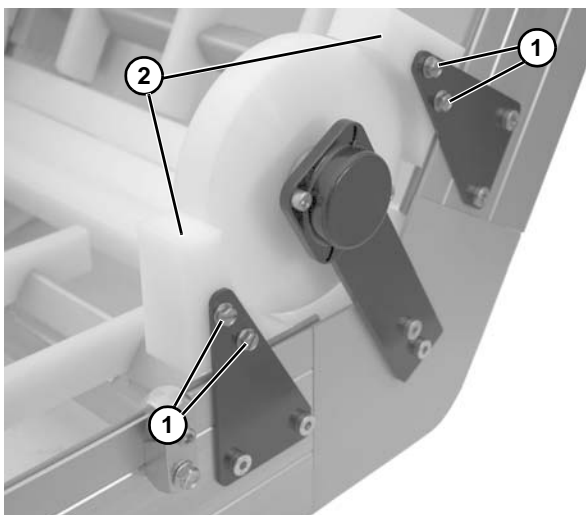

Figure 81
2. Remove two cap screws (**Figure 81, item 1**) on each side of the knuckle and remove the hold down roller guards (**Figure 81, item 2**). Repeat on opposite side.